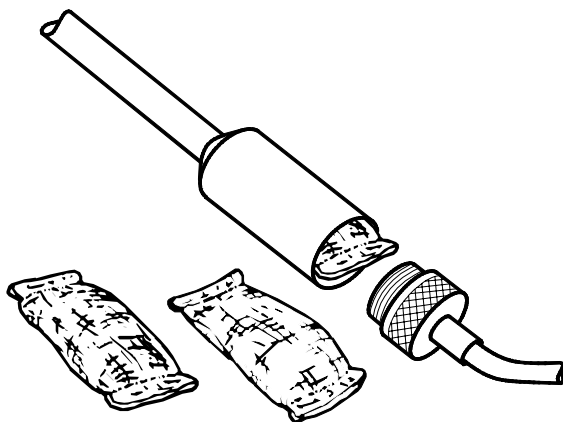

Figure 16. Charcoal Filter Pack
2. Remove the foam filter and install in its place one of the small activated charcoal filter packs. See Figure 16.